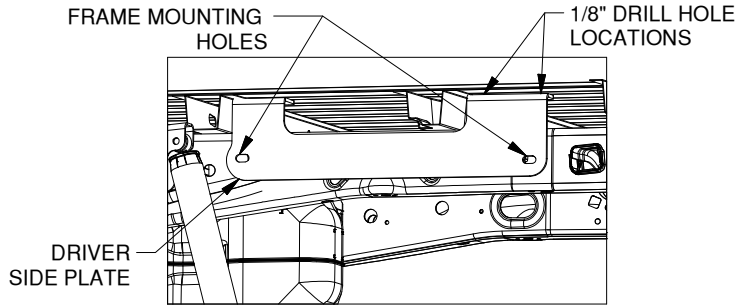

Figure B3: View looking into driver side wheel well.
3. **Check hole locations.** Align each side plate to the side of the frame where the side plate will be installed, see Figure B3. Check that the 1/8" holes are centered within the slots in the side plates. If the 1/8" drilled holes are not centered re-drill the 1/8" holes until the side plates and the drilled holes are aligned.